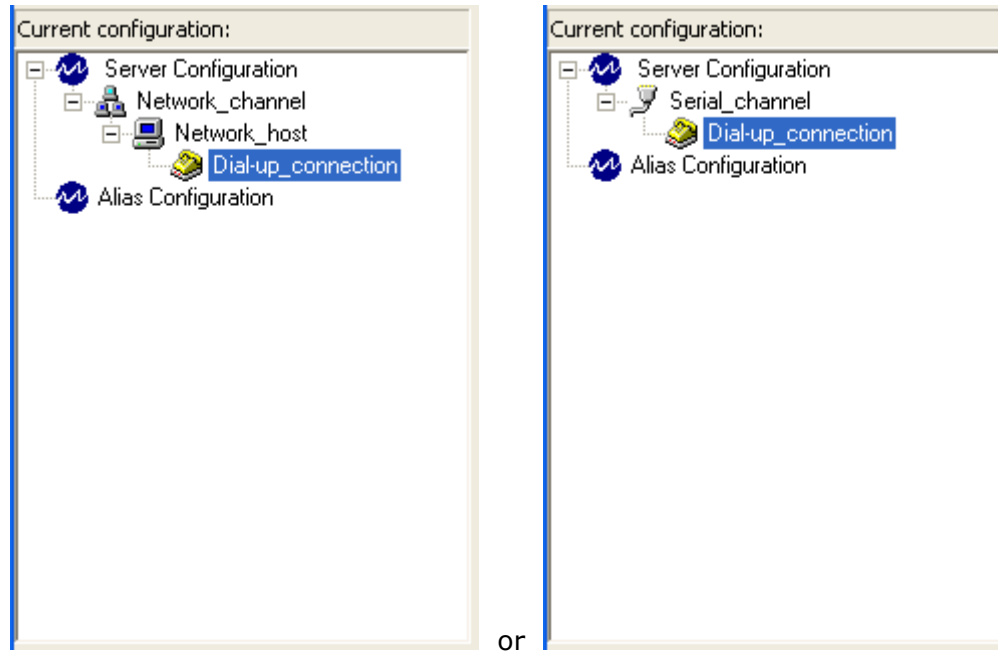

Figure 31 - New Dial-Up Connection Object
8. Click on the **OK** button. The object is created and appears either as a child of the **Network Host** or **Serial Channel** item as shown in Figure 31 (depending on what the selected parent item was).